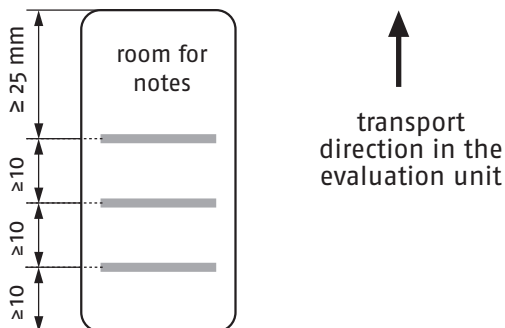

figure 2b: Alignment of the impressions on the measuring strip
- Note relevant data on the strip, like e. g. date, time, No. of printing unit, cylinder pair, side 1 or side 2 (see figure 2b).